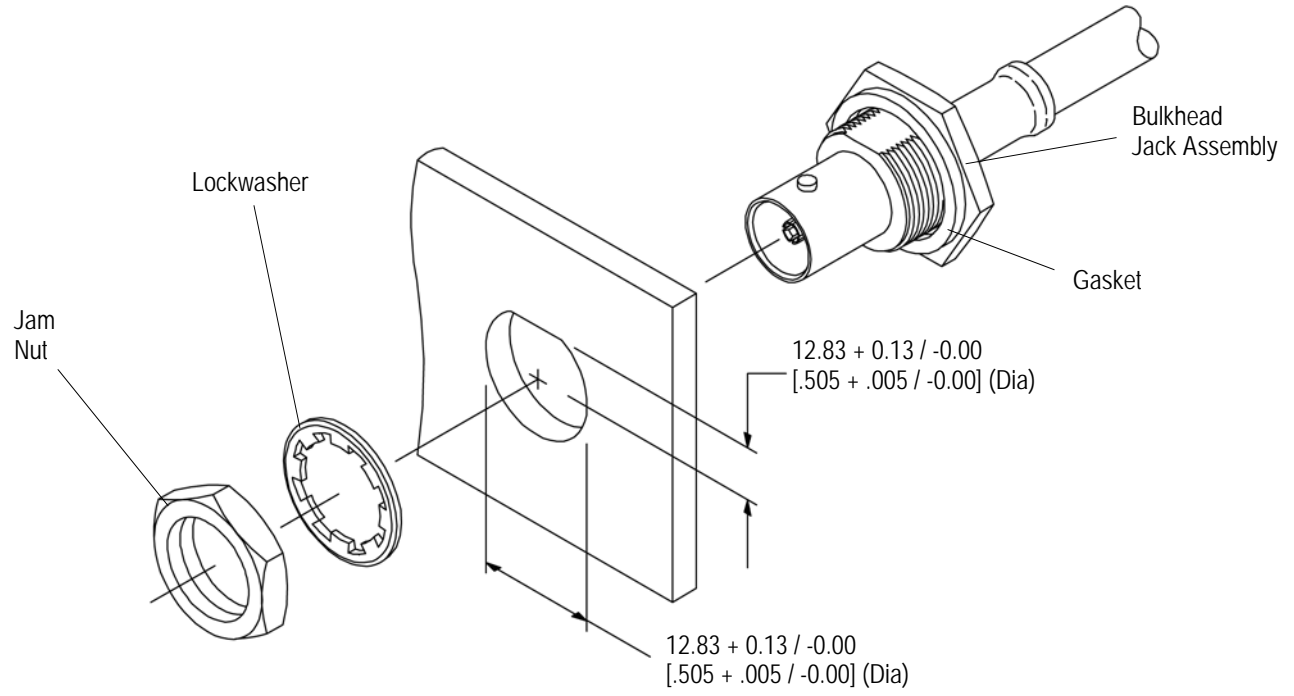

Figure 6
1. Make a cutout in the panel using the appropriate dimensions provided in Figure 6.
2. Assemble gasket onto connector assembly; then insert assembly into panel cutout, as shown in Figure 6.